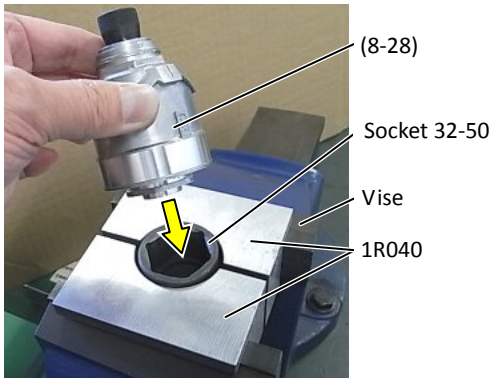

Figure 7
2. Remove Bearing box complete (28), O ring 40 (27), Internal gear 51 (26), Hammer section (17-25) from Hammer case complete section (8-16). (See Figure 7 to Figure 9)